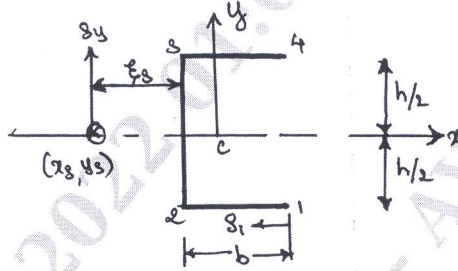

Fig.Q6(b)
b. Calculate the position of the shear center of the thin walled channel section shown in Fig.Q6(b). The thickness 't' of the wall is constant.